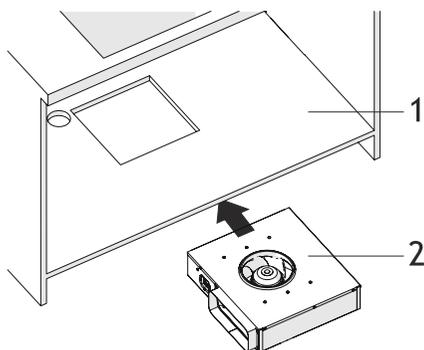

Fig. 22
7. ➔ Insert the motor box in the cabinet (Fig. 22).